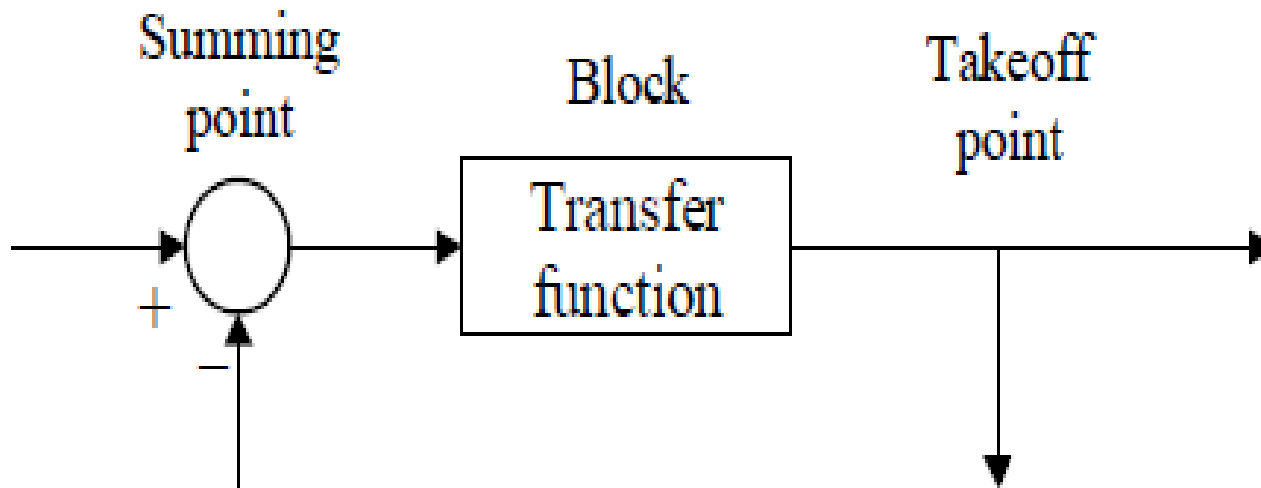

Figure 1. Elements of a block diagram
- ❖ Any linear control system may be represented by a block diagram consisting of the following elements: *blocks*, *signals* (indicated by arrows), *summing points*, and *takeoff points* as shown in figure 1.